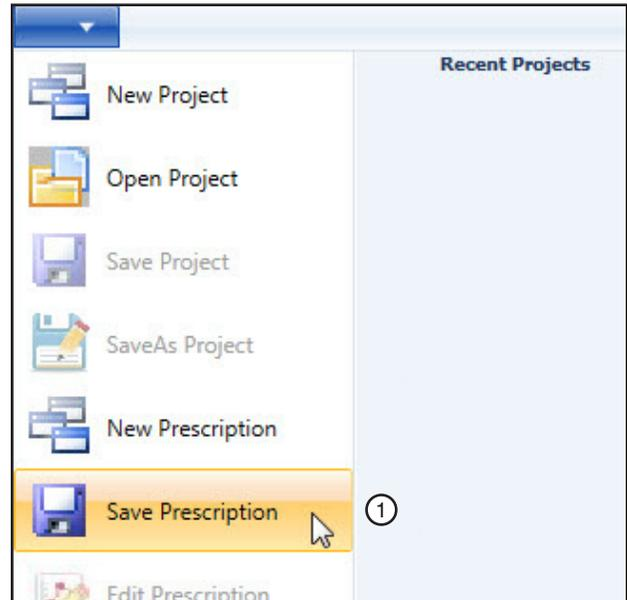

Figure 35-1 1. Save Prescription
1. Select **Save Prescription** in the VRI drop-down menu. (Refer to Figure 35-1.)